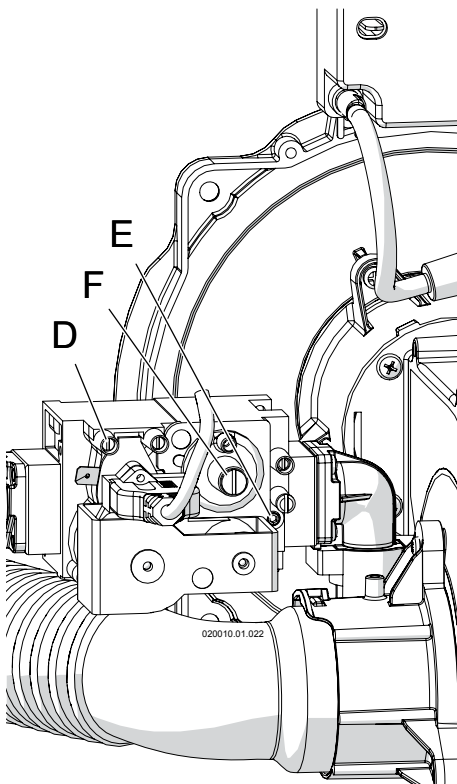

Figure 14-1 Gas valve
- 3.- Turn the screw in pressure port "D" shown in Figure 14-1 three turns counterclockwise;
- 4.- Connect a manometer with graduations of at least 0.1 in.W.C. (0.25 mbar) to the inlet gas port "D" shown in Figure 14-1 (on unit model 399 to 1000, choose the pressure port "D" from any gas valve present);
- 3.- Turn the screw in pressure connection "D" in Figure 14-1, clockwise until snug;
- 4.- Check pressure port "D" (Figure 14-1) for any gas leaks;
- e.- Compare the CO2 reading with the high fire range given in Figure 13-7, making sure to use the range for the gas type in use. If the CO2 reading is outside the specified range, it must be adjusted operating on the "E" screw of Figure 14-1 of the gas valve closer to the burner unit in fire. Use a 2.5mm Allen Wrench to turn the screw (clockwise to reduce the CO2 level, counter-clockwise to increase the CO2 level) in small increments and wait for the CO2 to stabilize to prevent overshooting the desired value;
- f.- When CO2 level match the value of Figure 13-7, seal screw "E" (Figure 14-1) with red paint or nail polish to discourage tampering;